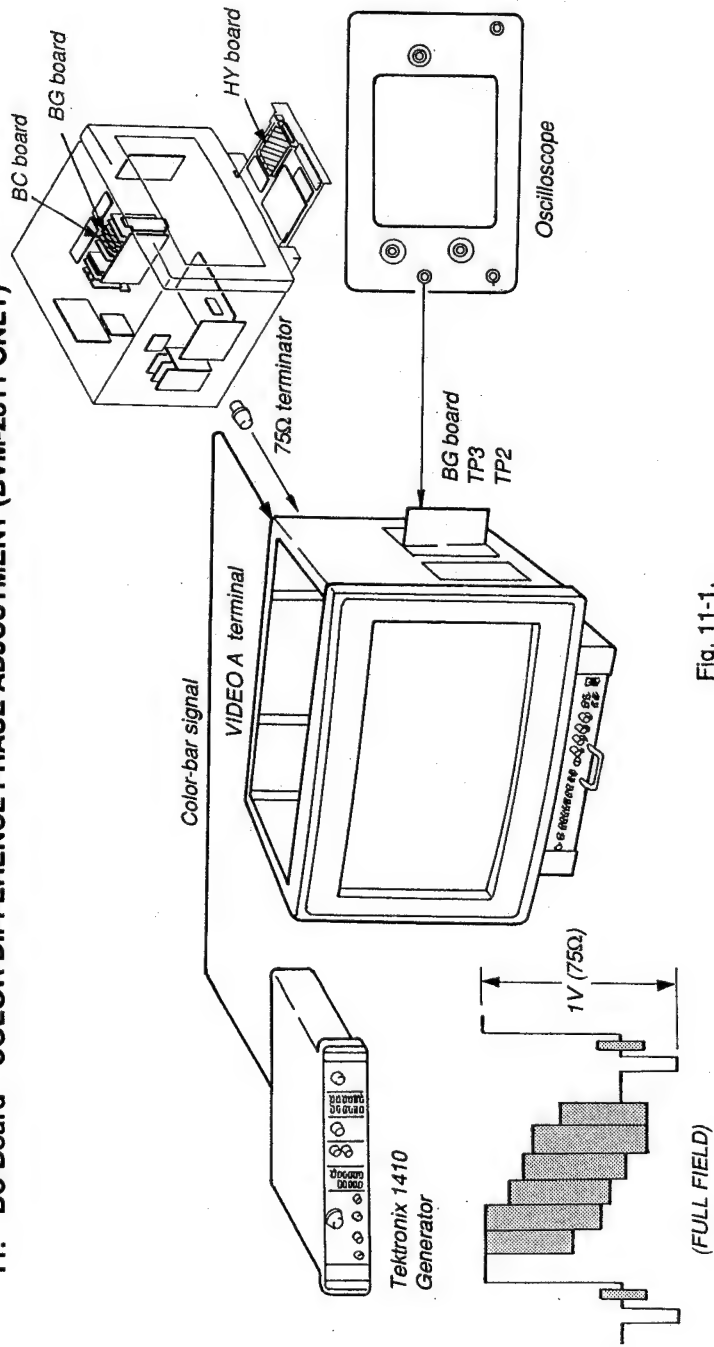

Fig. 11-1.
- 1. Complete the connections as shown in Fig. 11-1.